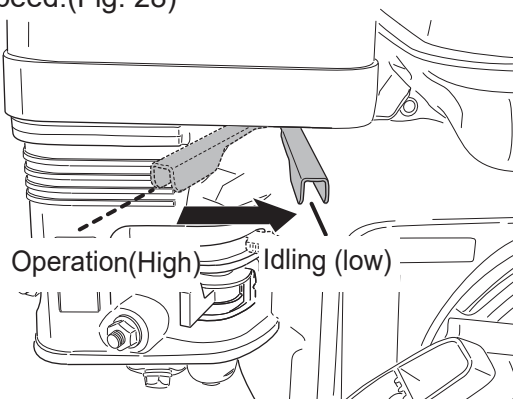

Fig.28
3. Return the throttle lever to lower engine speed.(Fig. 28)